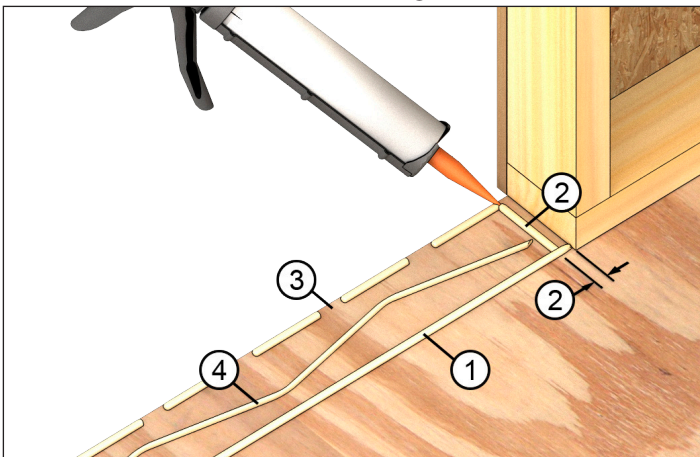

Figure 10
2. Apply a 3/8" (10) bead of adhesive on the subfloor at the interior edge of the door opening. Apply a bead of sealant 1/2" (13) from both ends of the rough opening that run interior to exterior. Apply a discontinuous bead at the exterior. Gaps should be about 1-2" (25-51) wide and start 2-4" (51-102) from the ends. Finally, lay another bead approximately 2 1/4" (57) from the interior bead in a slight wobble pattern. Adhesive beads should contact the interior and exterior flat portions of the sill as well as the center rib. See Figure 10.